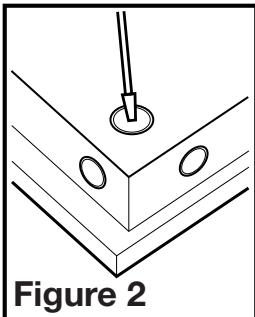

Figure 2
4. Select the most convenient electrical knockout and remove using a straight-blade screw driver (**Figure 2**).